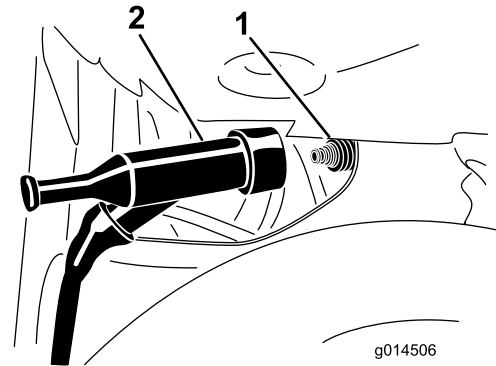

Figure 17
2. Pull the wire off of the spark plug (Figure 17).